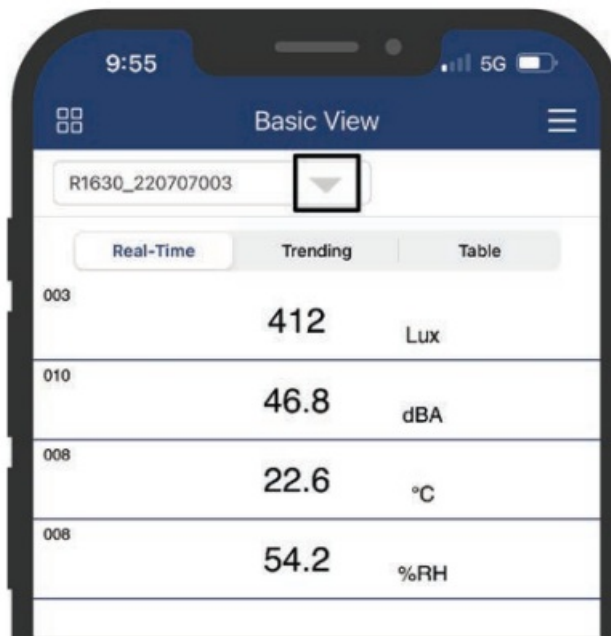

Figure 6
1. While in the application screen, tap on the icon (Figure 6) to access the connected devices list.